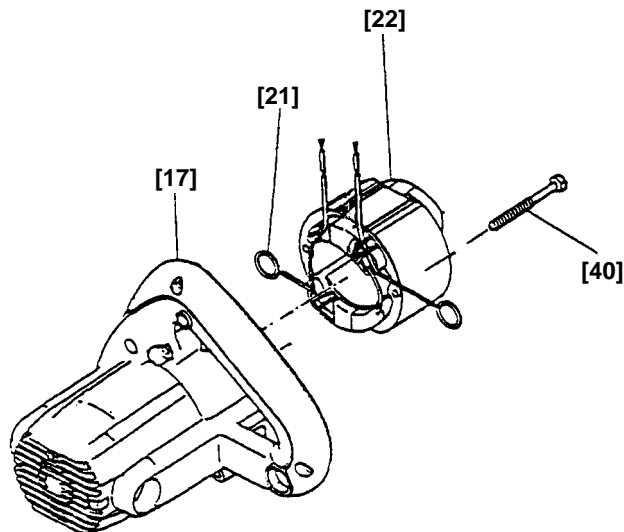

Fig. 6
(6) Removing the Stator Ass'y [22] (Fig. 6)